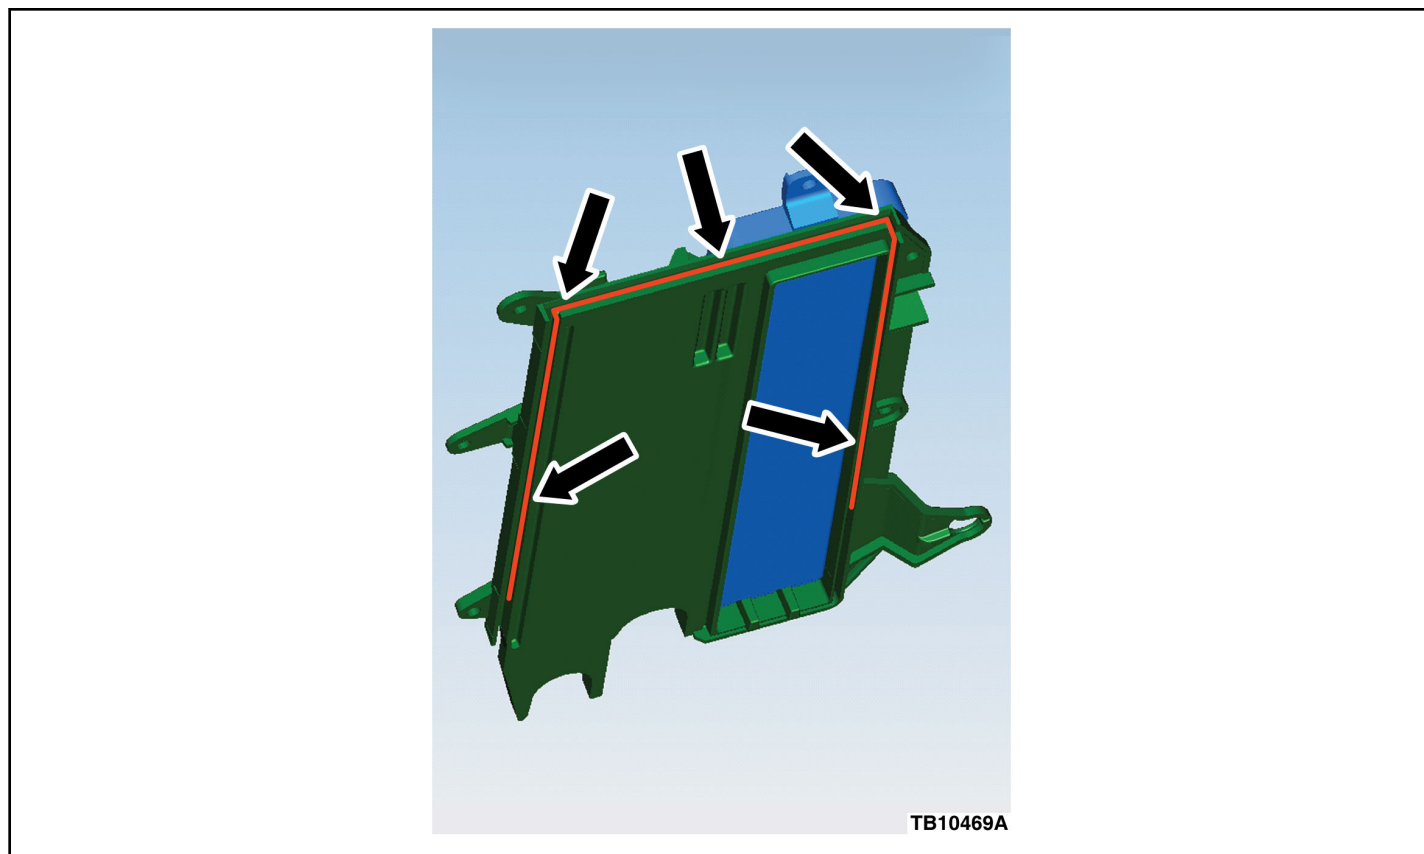

Figure 2 - Article 13-12-6
7. Place the rope seal across the bottom of the evaporator core access cover groove and starting in the middle push rope seal into the groove. (Figure 2)